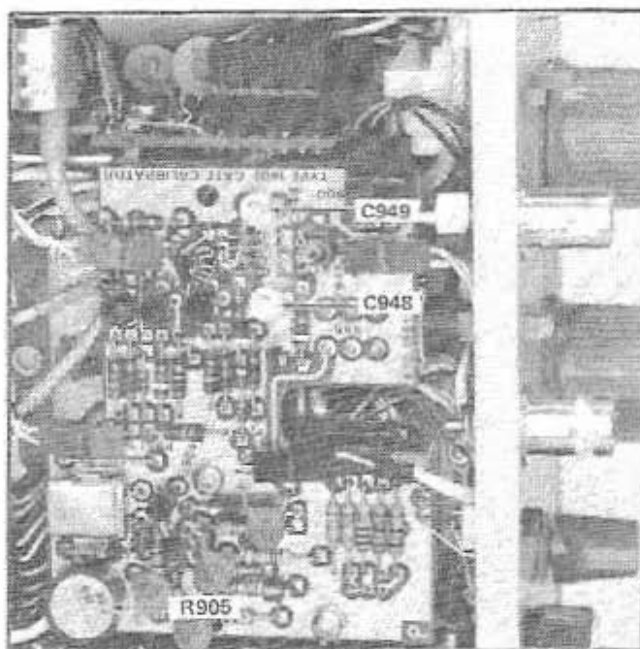

Fig. 6-16. Location of gate balancing adjustments.
d. Adjust C948 and C949 (Fig. 6-16) for minimum signal amplitude.